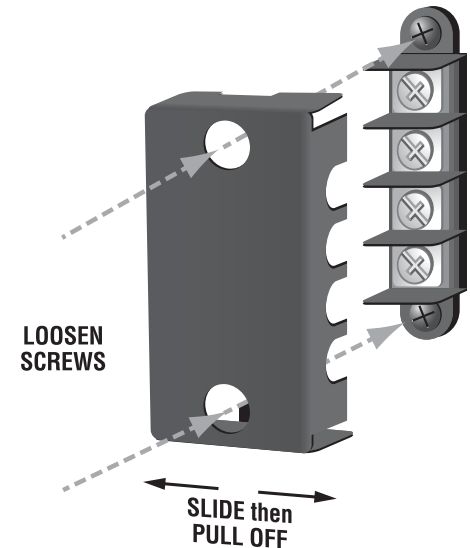

Figure 3.6 How to Remove the Two-Holed
1. Loosen screws inside top and bottom holes of cover (see Figure 3.6).
Typical input and output wiring, along with Attenuator and Mode Switch settings are shown in Figures 3.6 and 3.7. Make sure the Mode switch is set to the "Dual" position when operating in Dual mode.